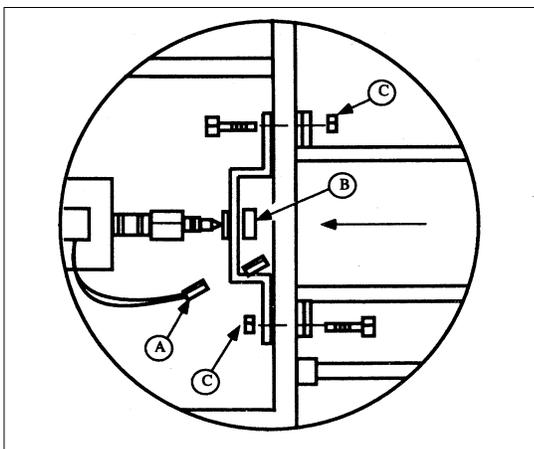

Figure 4-2
Unplug wire (A) at the glo-bar. Remove nut (B) and slide control assembly back. Unscrew bolts (C) fastening the orifice bracket to the control box, and pull out burner housing from tube (see Figure 4-2). Pull burner housing off fixed bolts, rotate counterclockwise ¼ turn and remove.